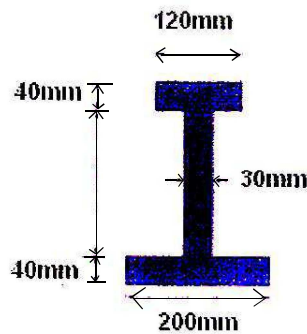

Fig. 10
- (b) The cross-section of a simply supported beam of 6 m span is shown in Fig. 10. If permissible stresses are 100 MPa in compression and 40 MPa in tension. Find the safe UDL the beam can carry. [8]